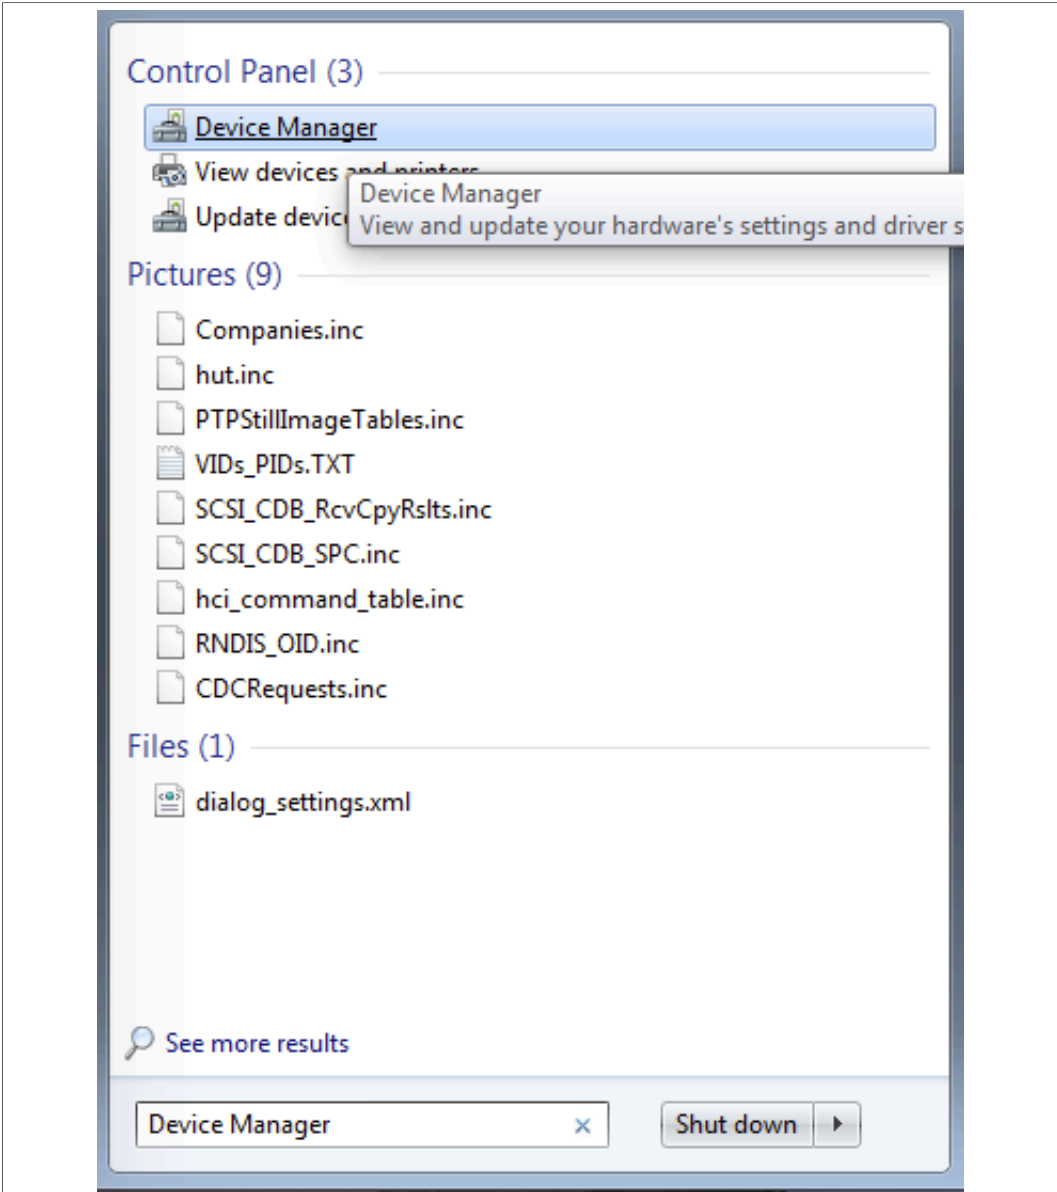

Figure 59. Device Manager
1. To determine the COM port, open the Windows operating system Device Manager. This can be achieved by going to the Windows operating system **Start** menu and typing **Device Manager** in the search bar, as shown in Figure 59.